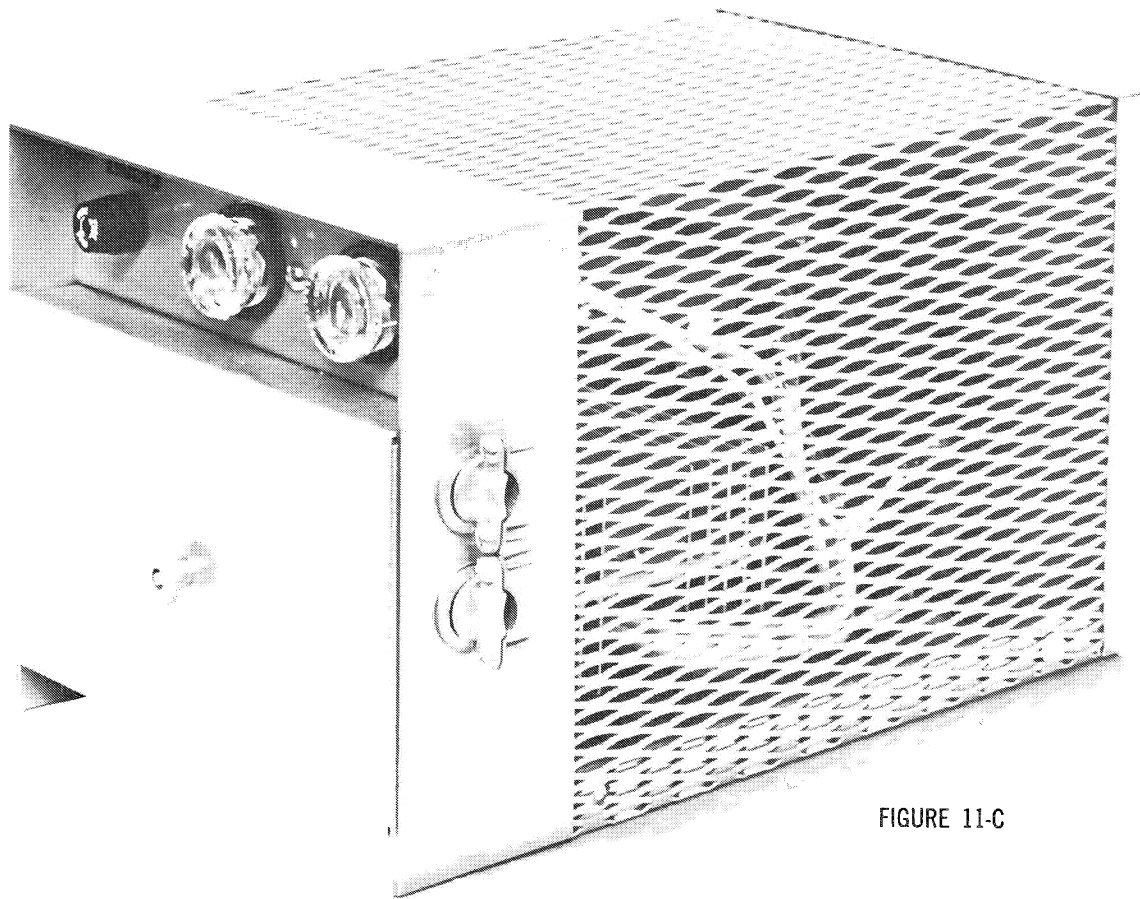

FIGURE 11-C
4. Reconnect AC Campsite connection. Listen carefully to see if there is a very slight "hum" from the UNI-VOLT. If there is, and there still is no reading on the ammeter, either the ammeter is defective or the DC fuse is blown. The DC fuse is the large fuse on the left of the terminal board (see Figure 11-C). Disconnect AC power when changing fuse and be careful not to touch metal ends of fuse or holding clips. If the slight "hum" is heard and the DC fuse is not blown and the ammeter reads zero, the ammeter could be broken and not truly indicating the electrical load on the UNI-VOLT.